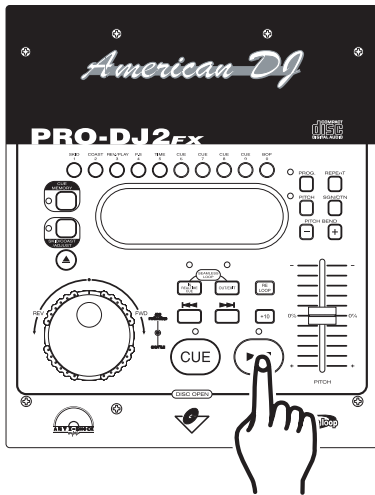

Figure 19
This function will increase or decrease a tracks playback speed or "PITCH," this is not a momentary change as in "PITCH BENDING" (see page 17). The maximum pitch bend percentage allowed is $\pm 16\%$. The *PITCH SLIDER* (21) is used to decrease or increase the playback pitch. If the slider is move up (towards the top of the unit) the pitch will decrease, if the slider is moved down (towards the bottom of the unit) the pitch will increase. The *PITCH SLIDER* (21) adjustment can be changed to range from $\pm 8\%$, $\pm 12\%$, or $\pm 16\%$ (See changing "PITCH SLIDER PERCENTAGE RANGE" figure 19/page 18). The pitch adjustments will effect playback, reverse playback, and loops.